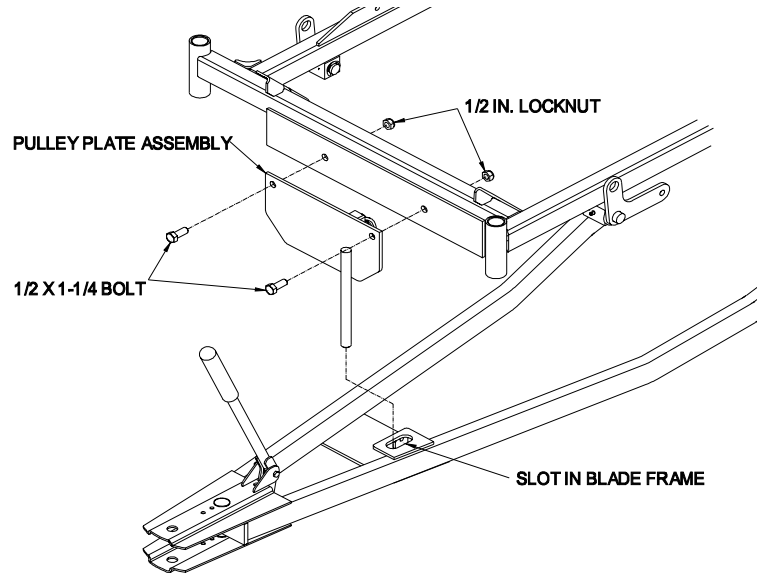

Figure 8
3. Insert the shaft on the pulley plate assembly into the slot in the blade frame and secure the assembly to the front of the traction unit with 2 bolts ($1/2 \times 1-1/4$ in.) and locknuts ($1/2$ in.) (Fig. 8).